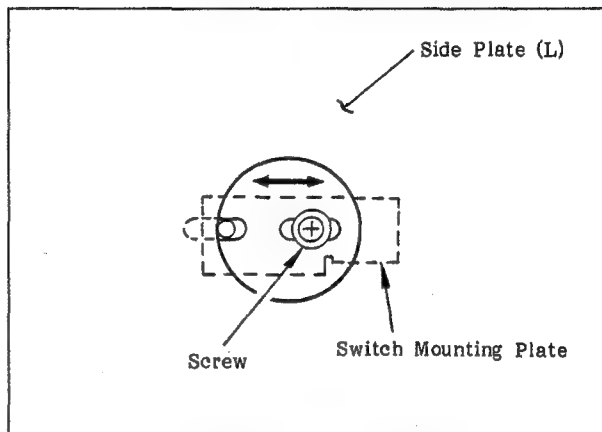
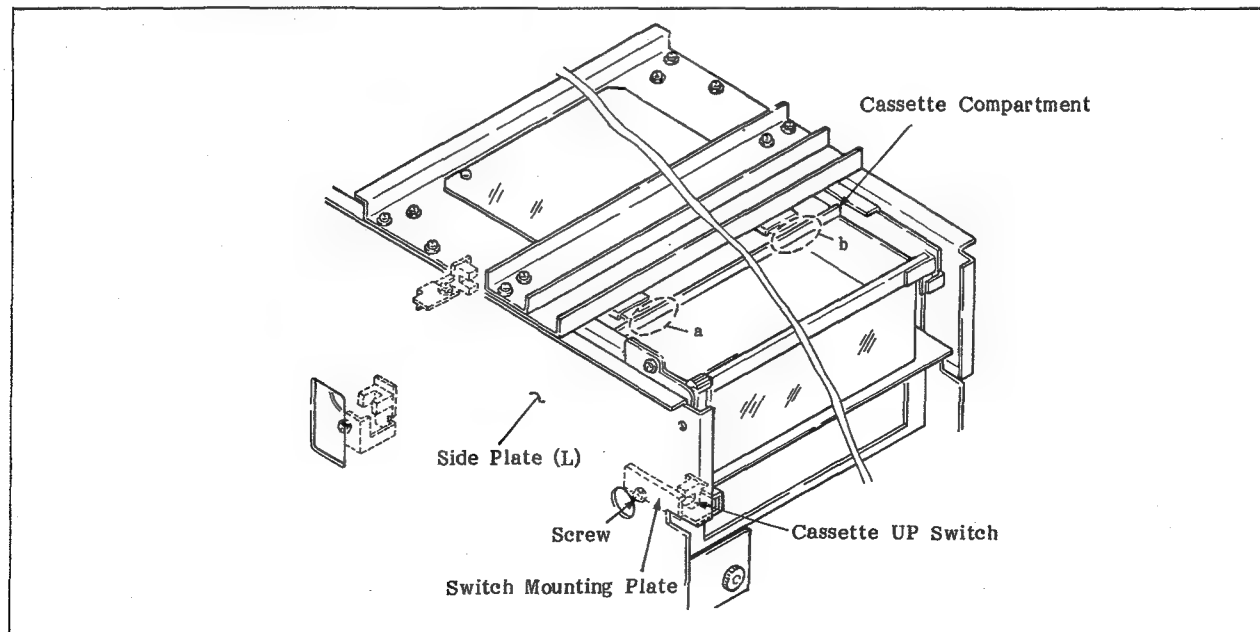

Fig. 6-21 Adjusting the Position of the Cassette UP Switch
Fig. 6-20 Cassette UP Switch
25. Press the **TEST**, **F3**(CHECKER), **F1**(CONTINUE), **F3** (c), **4**, **SET**, **F5** (E) , **8**, **SET** keys on the control panel in that order to set the machine in the data check mode.
27. Confirm that there is no play in either portion a or portion b of the compartment shown in Figure 6-20. If there are plays in both portions a and b, loosen the screw that holds the switch mounting plate by a half or one turn, and then slide the switch mounting plate into the direction of the arrow shown in Figure 6-21 by about 0.5 mm. Repeat steps 26 and 27 until the play of the cassette compartment is eliminated.